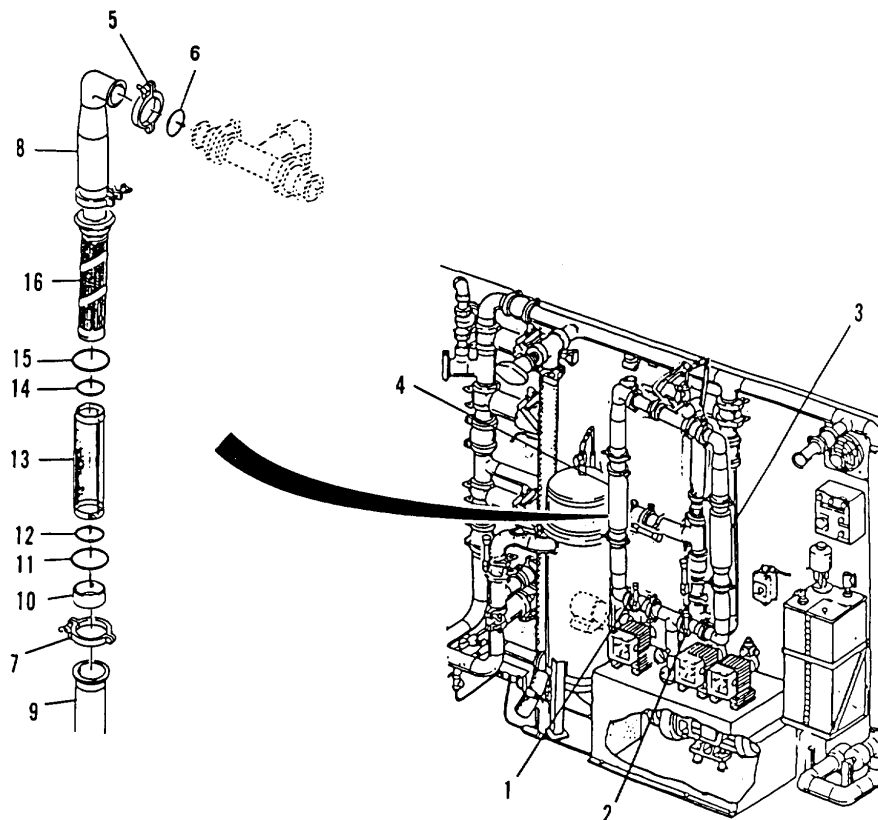
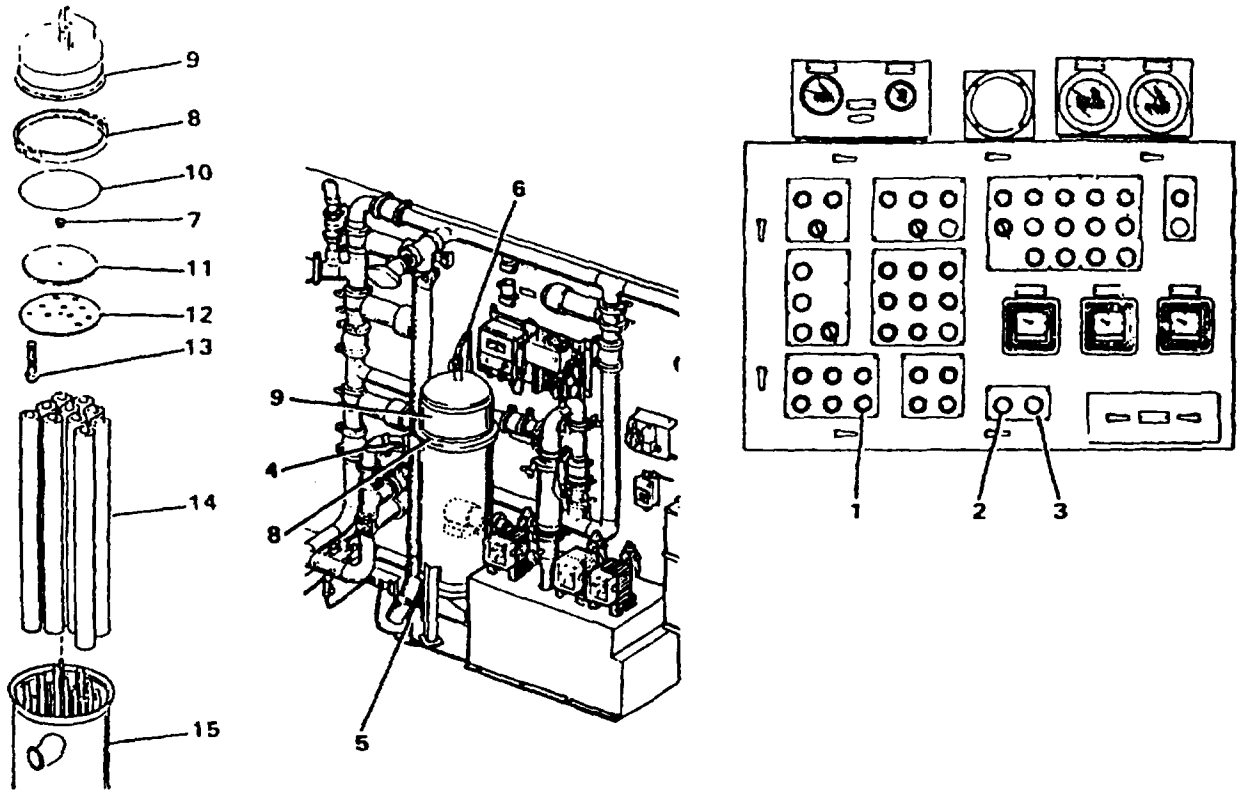

Figure 2-56.1. Replace Outer Basket Strainer Screen
Figure 2-57. Replacing Cartridge Filter Elements
- (l) Install spare outer strainer (14), seal (16), gaskets (13 and 15) on inner strainer (17) and secure with cap (12). Insert the assembly (11) into the basket strainer vessel (18).
- (m) Install gaskets (10).
- (n) Install pipe section (8) with clamps (7) and (9).
- (o) Close vent valve (6) and booster pump drain valve (5). (MODEL ROWPU-1 ONLY)
- (p) Open feed valve (4). (MODEL ROWPU-1 ONLY)
- (a) (Refer to Figure 2-56.1.) Before disassembly of a basket strainer, be sure to set valves (1) and (2) properly. If basket strainer (3) is being removed, open valve (1) and close valve (2). If basket strainer (4) is being removed, close valve (1) and open valve (2).
- (b) Remove clamp (5), gasket (6), and clamp (7).
- (c) Remove basket strainer assembly (8) from pipe (9).
- (d) Unscrew cap (10) and remove seal (11), O-ring (12), outer strainer (13), O-ring (14), and O-ring (15) from inner strainer (16).
- (e) Clean all dirt and debris from outer strainer (13) and inner strainer (16).
- (f) Install O-ring (15), O-ring (14), outer strainer (13), O-ring (12), and seal (11) onto inner strainer (16).
- (g) Screw cap (10) onto inner strainer (16).
- (h) Place basket strainer assembly (8) onto pipe (9) and install clamp (7), gasket (6), and clamp (5).
- (i) After assembly and installation of basket strainer, partially open valves (1) and (2) to check basket strainer installation for leaks. Tighten or reinstall fittings as needed.
- (4) Replace all ten cartridge filter elements.
**When cartridge filters are dirty, the cartridge filter pressure drop sensor will turn on warning horn and yellow CARTRIDGE FILTER PLUGGED light (1, Figure 2-57).**
- (a) Push ALARM SILENCE (2).
- (c) Push SYSTEM RESET (3).
- (d) Close cartridge filter block valve (4).
- (e) Open cartridge drain valve (5) and filter vent (6).